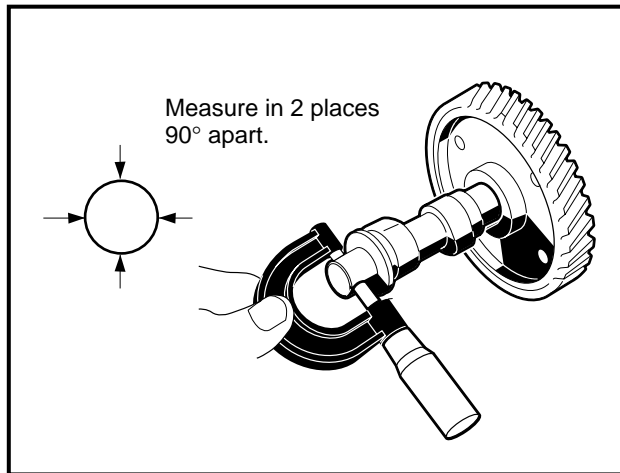

Figure 13-49 Measure Camshaft Journals
3. Measure camshaft journals and cam lobes with a micrometer at the points shown (**Figures 13-49 and 13-50**).